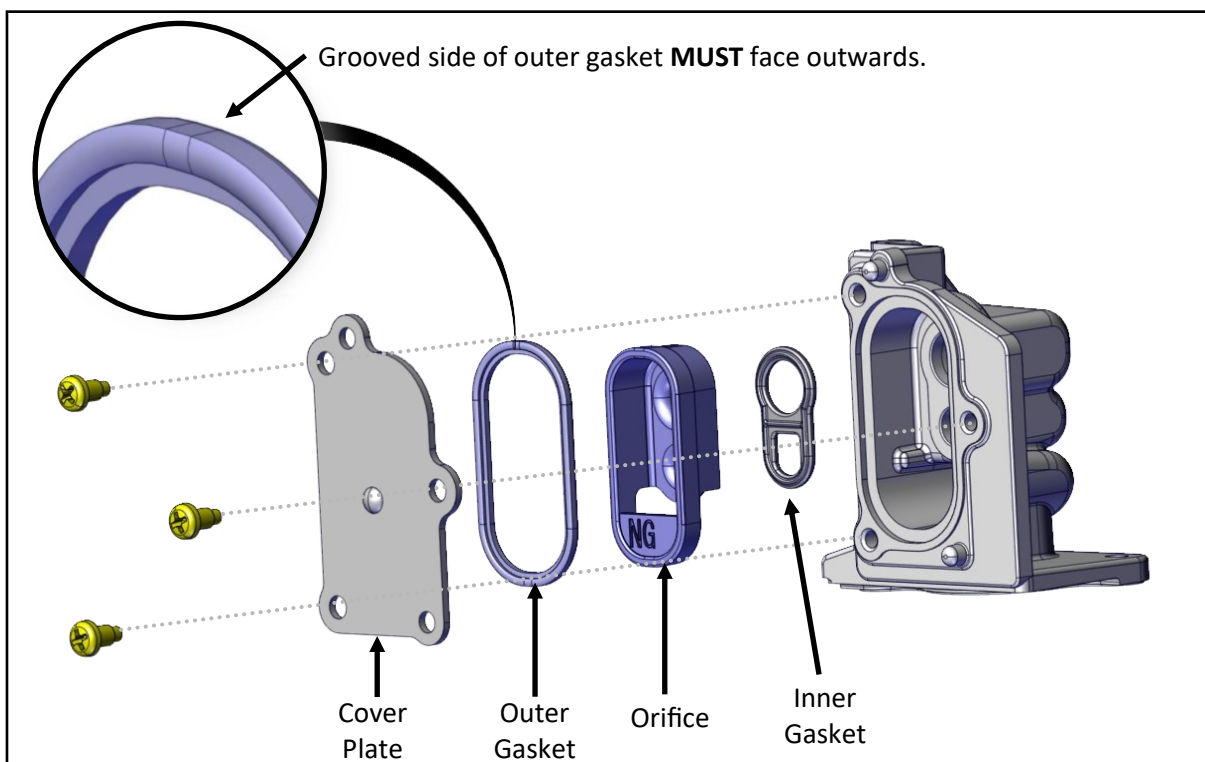

Figure 162
11. Confirm gasket is correctly in place (the grooved side of gasket must be facing outwards) (Figure 162).